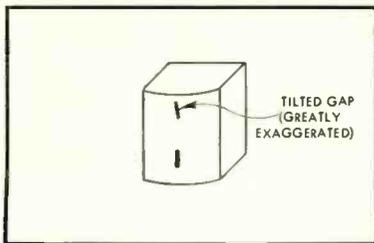
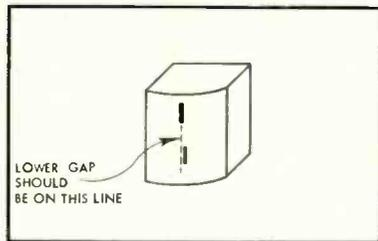

Fig. 6. Stereo head with tilted gap.
Fig. 7. Stereo head with displaced gap.
1. *Co-Linearity of the Stereo Head Gaps.* One of the problems of manufacturing a good stereo head is to insure that the gaps are in exactly the same straight line. If one gap is tilted with respect to the other, as illustrated in Fig. 6, then it is not possible to achieve correct azimuth on both channels simultaneously; hence high frequency response will suffer on one channel or the other, or both. If one gap is displaced with respect to the other, as illustrated in Fig. 7, then the time relationship between the left and right signals will be altered. Some experts have claimed that extremely small changes in the time relationship can significantly alter the stereo effect.